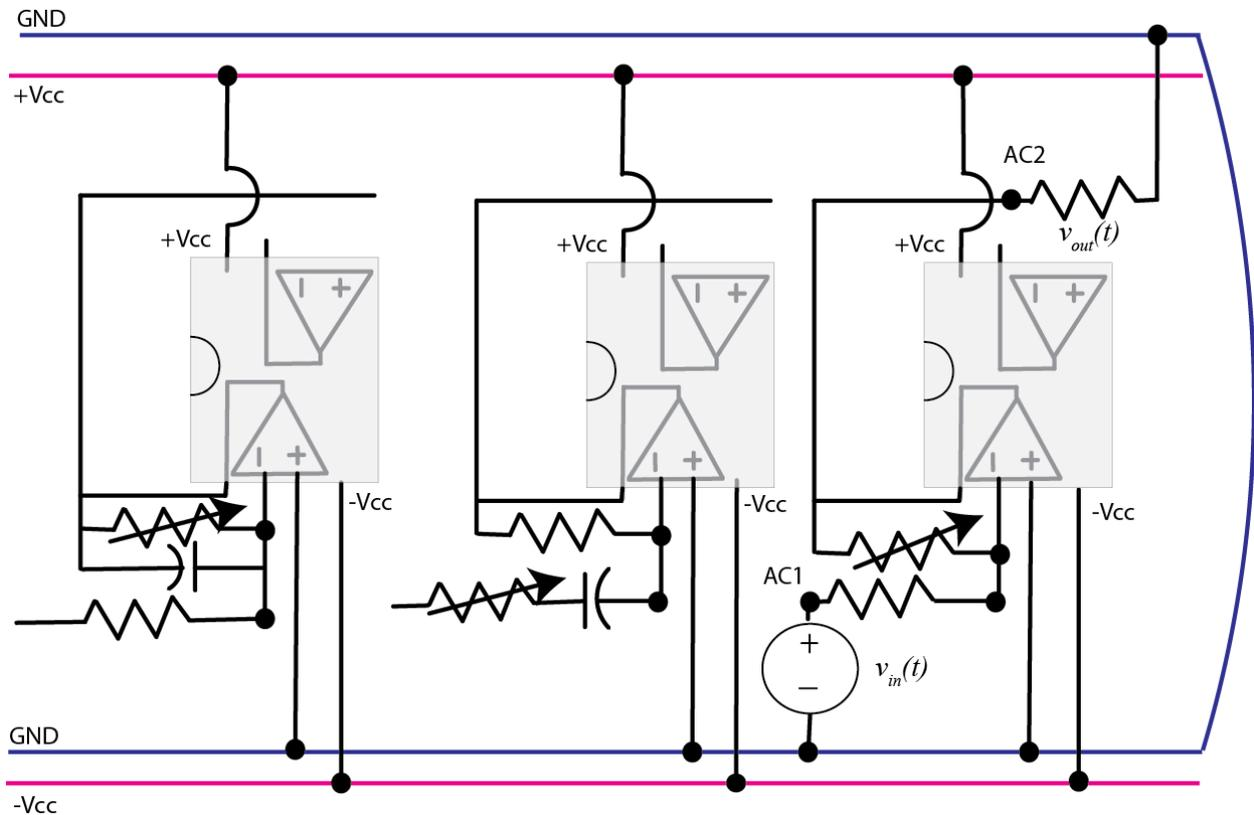

Figure 6. Allpass (gain) subsystem.
5) Construct the gain subsystem, as shown in Figure 6. Determine the frequency that is the average of the two cutoff frequencies for the lowpass and highpass filters you have constructed. Be sure to be consistent in using either radians/sec or Hz. Adjust the variable resistor so that for an input sine wave at this frequency (it should probably be between 100 and 200 Hz) with a 1 volt amplitude, the output has a 1 volt amplitude (or as close to this as you can get it).